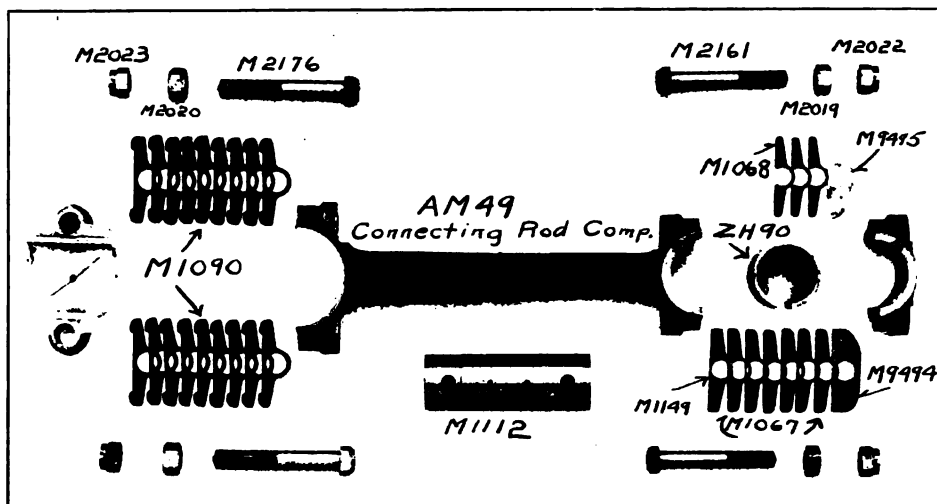

Fig. 6
- 65** — *The wrist pin bearing, also called the piston pin bearing, is a bronze bushing open on one side that fits over the piston pin and is clamped inside the cap that fits over the upper end of the connecting rod. The bronze bushing ZH90, in Fig. 6, is prevented from turning by the shim, M9494, that fits in the open side of the bronze bushing. The upper end of the connecting rod assembly can move sideways on the piston pin about  $\frac{1}{8}$  inch. If the crank end of the connecting rod bearing is properly cared for, there will be but little trouble with the wrist pin bearing.*
- 66 — Fig. 6 shows a connecting rod assembly for the 45 engine.